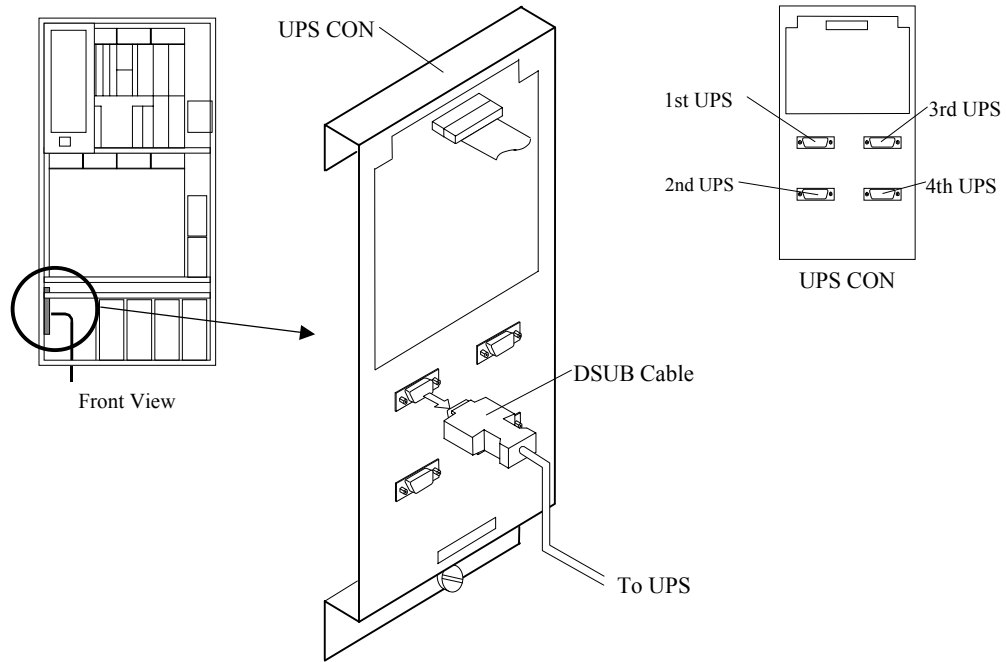

Fig. T27-1 Disconnection of Cables
- a. Connect the DBUS cables to UPS CON. Refer to Fig. T27-1.